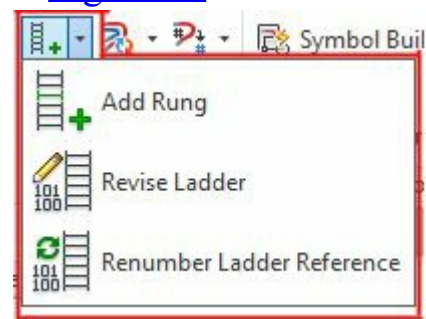

Figure-55. Ladder Editing drop-down
- Click on the **Add Rung** tool from the **Ladder Editing** drop-down; refer to Figure-55. You are asked to click at the desired location to add rung.